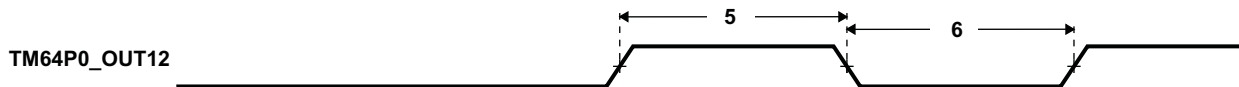

**Figure 6-42. Timer Timing**
**Table 6-69. Timing Requirements for Timer Input(1)(2) (see Figure 6-42)**